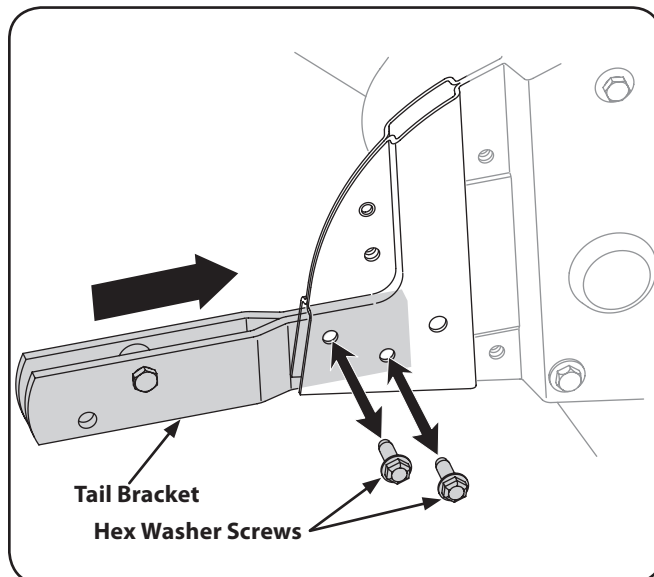

Figure 3-6
2. Remove the two hex washer screws from the tail bracket as shown in Fig. 3-6.
3. Insert the depth gage bracket into the frame and reinstall the two hex washer screws removed earlier. Tighten securely. See Fig. 3-6.